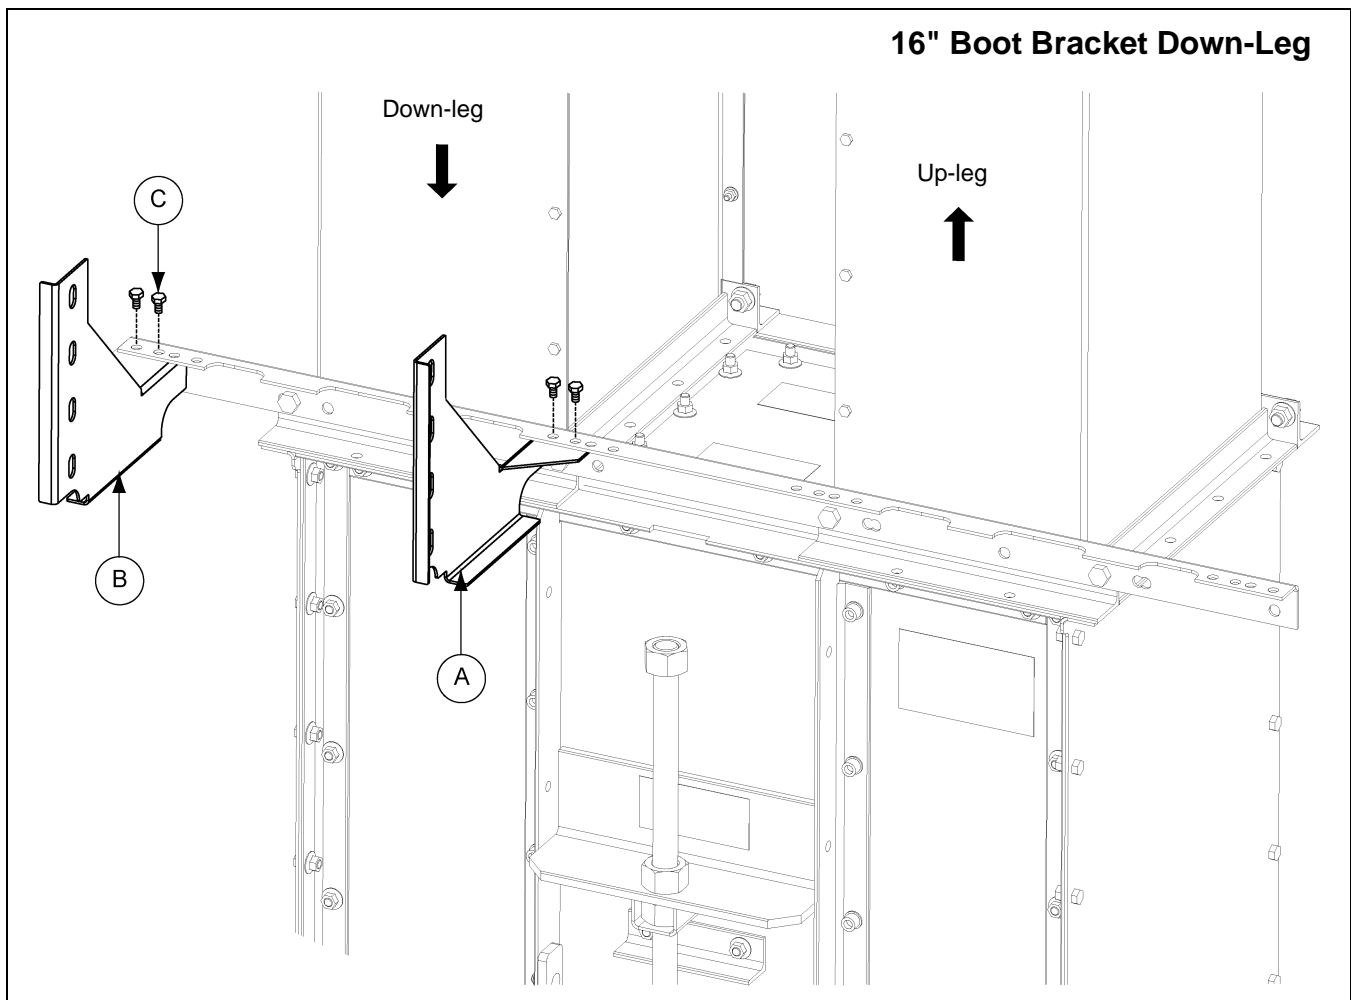

Figure 6C 16" Boot Bracket Down-Leg
1. Using the holes indicated based on bucket elevator size in Figure 6C, attach ladder support brackets to boot tie angle using 3/8" x 1" hex bolts. Remember to double check if the ladder should start on the up-leg side or the down-leg side. (See Figures 6C-6H on Pages 21-26.)
- a. **16" Down-leg boot bracket:** Use 3/8" x 1" hex bolts to attach the ladder support brackets to the boot tie angle using the holes indicated in Figure 6C. Note the outer bracket uses the outer most holes of the tie angle and the inner bracket will have two (2) empty holes beside it on the tie angle.